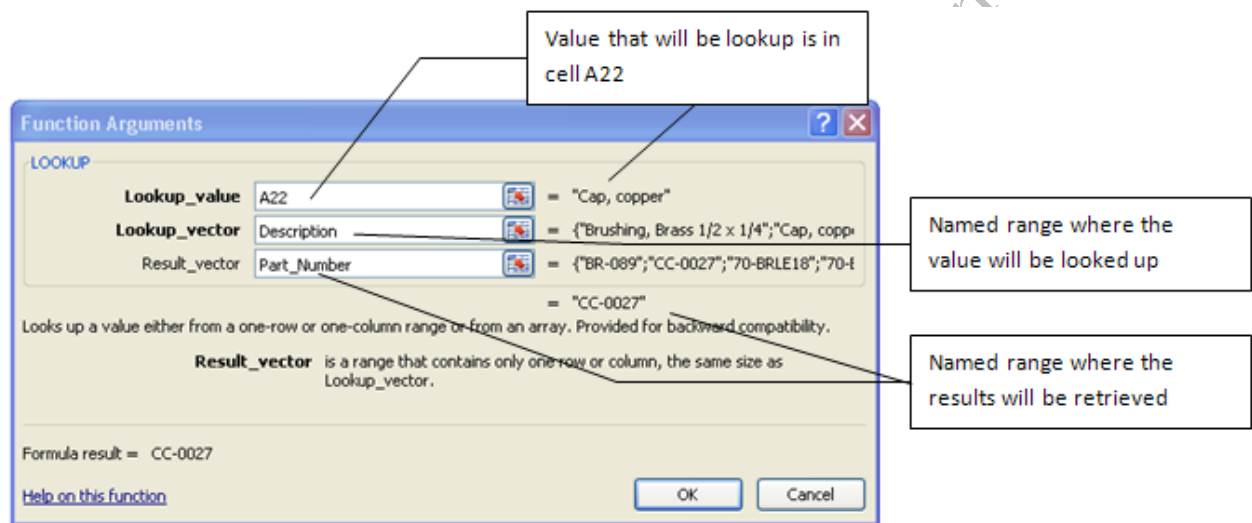

Figure 8.20. Lookup function used to retrieve the part number
5. In the Lookup vector box type **Description**, press Tab, and then in the Result vector box type **Part_Number**. Compare your dialog box with Figure 8.20.